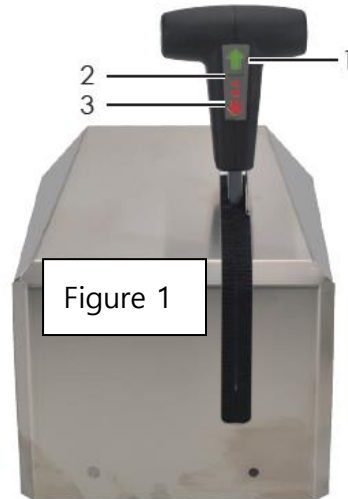

Figure 1
- Lift up and Push the handle FORWARD (Fig. 1) until the blocks engage the frame.
- Lift up and Push the handle FORWARD (Fig. 1) to raise the vehicle to the desired working height making certain that no bystanders are in or around vehicle during the entire process.
- Release the handle (Fig. 1) when the vehicle has reached the appropriate working height or has reached its lowest possible position.